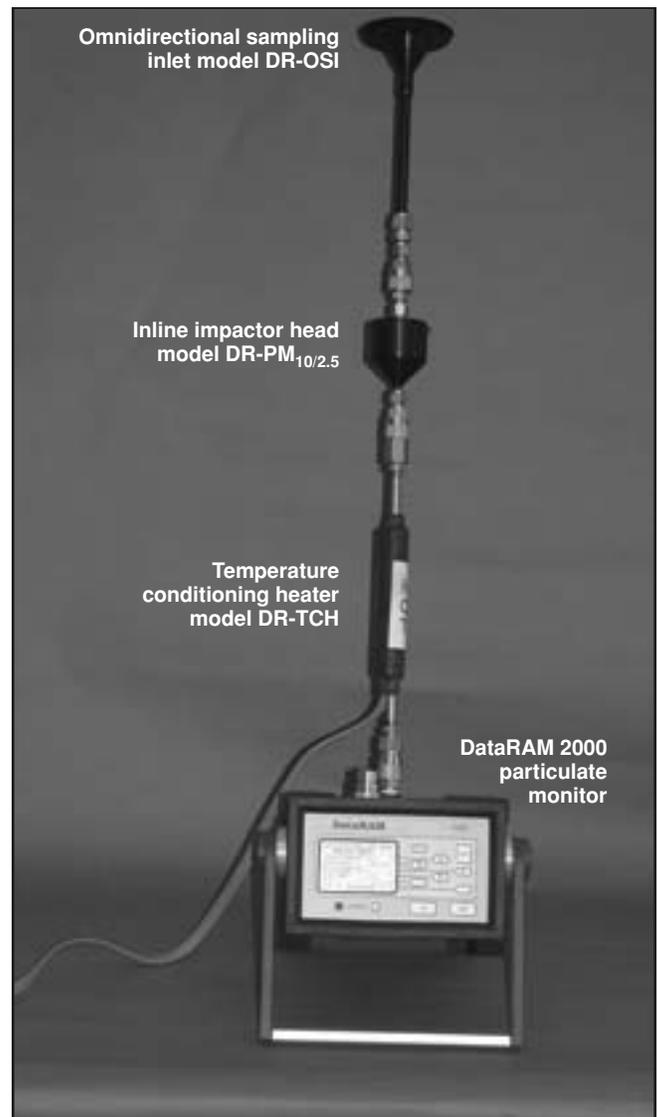

Figure 2—The DataRAM with all three ambient monitoring accessories.
- Temperature conditioning heater (optional accessory for the MIE model DR-TCH, figure 2) (120-volt line power)